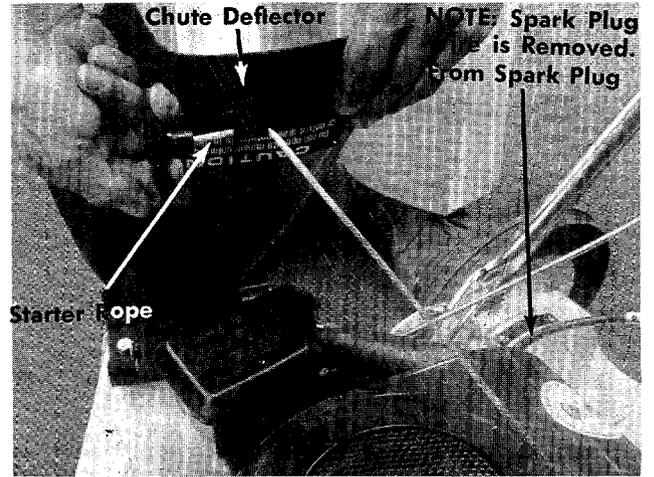

FIGURE 2. SECURING DEFLECTOR FOR ASSEMBLY
5. Lift the chute up and hold in place with the starter rope. See figure 2.